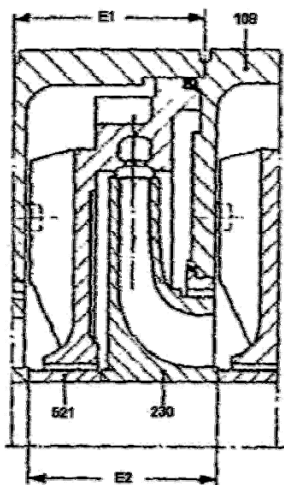

Figure 33 – Measuring stages
Prior to assembly, measure the axial length “E” of the stage casing (108) and the appertaining impeller (230) with stage sleeve (521). Any differences in length must be compensated for solely by machining the stage sleeve (521) so that $E_1 = E_2$ (Fig. 33).